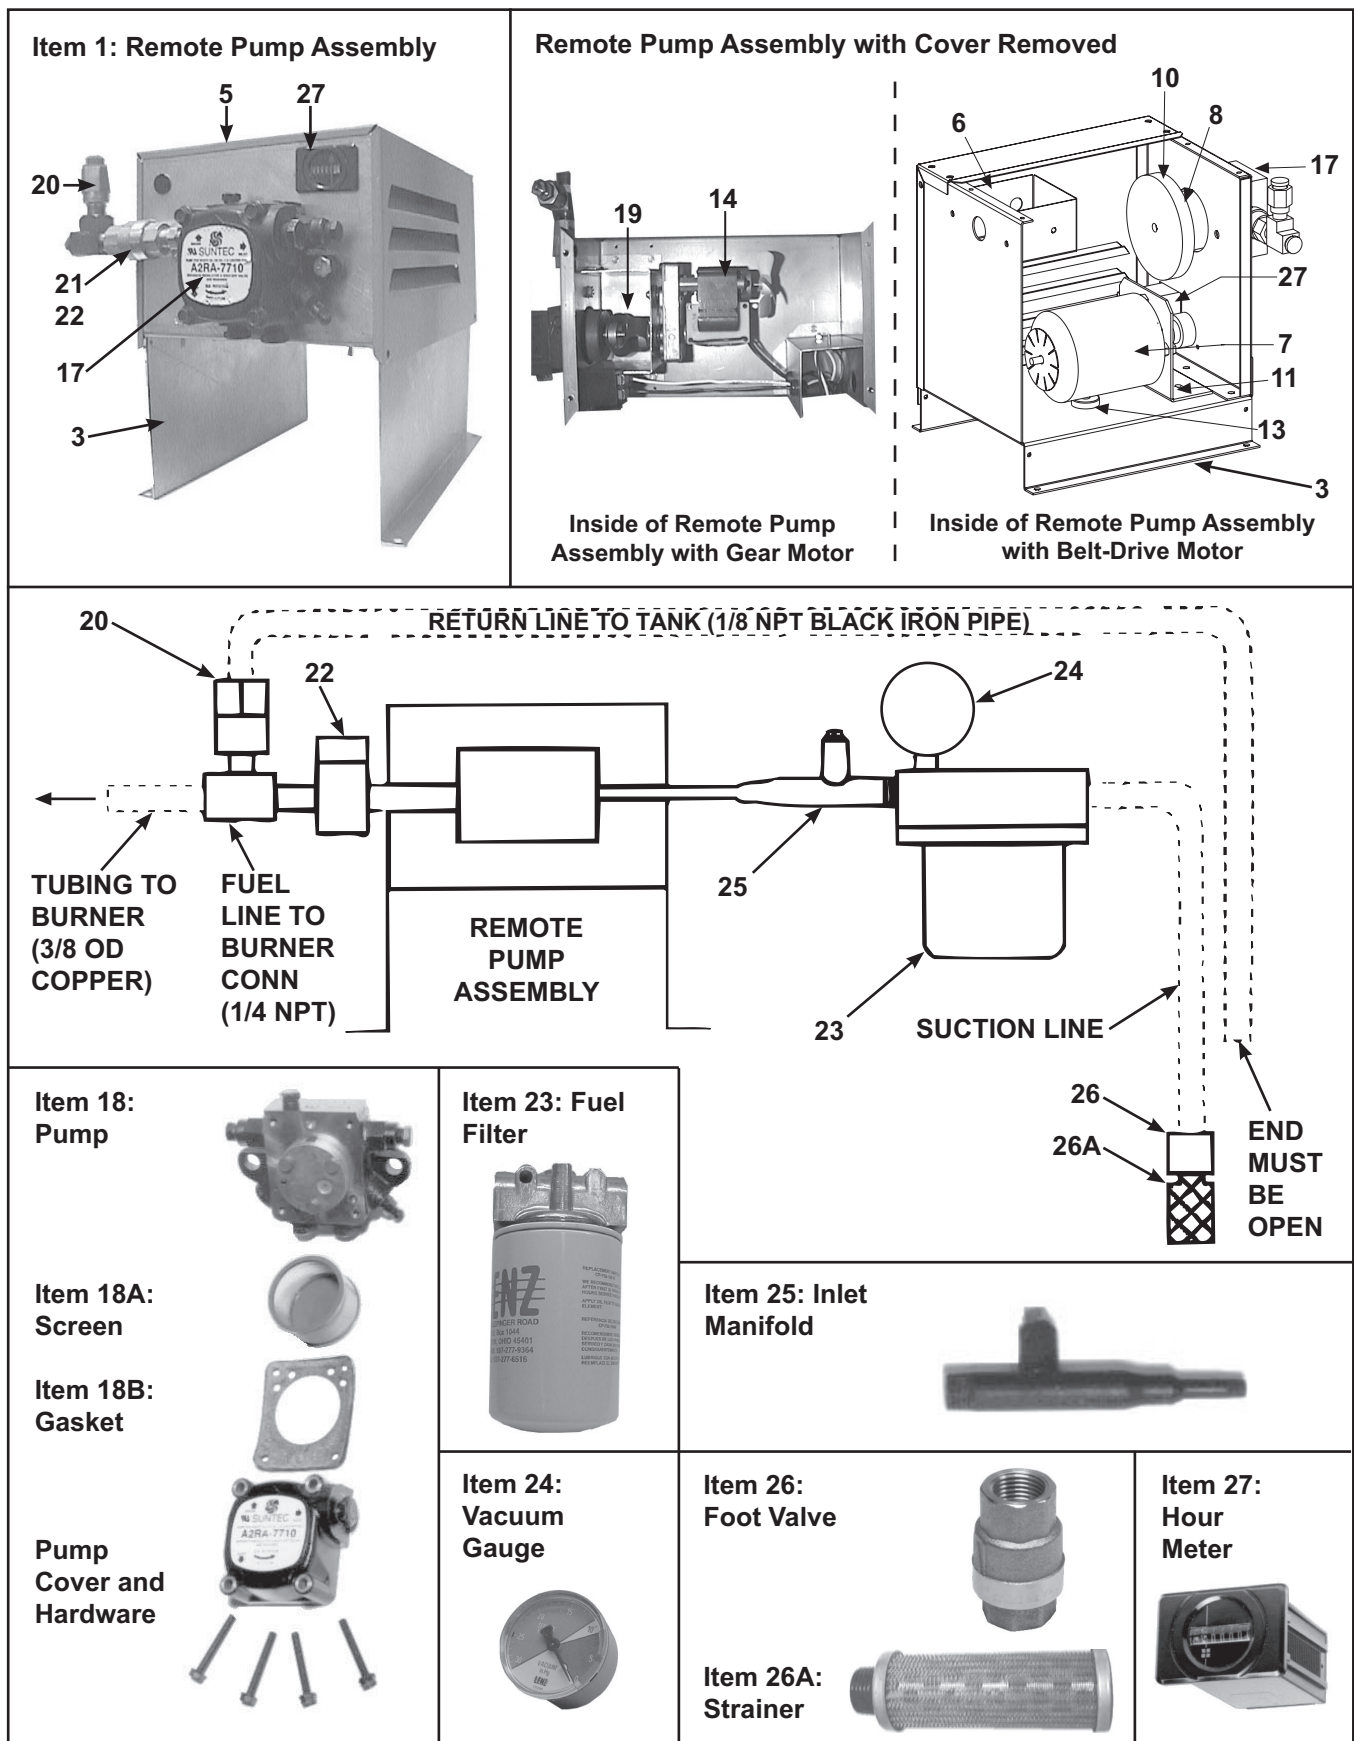

Figure 7. Remote Pump and Suction Line Components (Refer to Table 8)
- Remote pump and suction line components are shown in Figure 7 and listed in Table 8.
- Depending on the unit's date of manufacture, its actual appearance may vary from Figure 7.
- Depending on the unit's date of manufacture, the remote pump is either controlled by a gear motor or by a belt-drive motor. On units manufactured *after* 19 JAN 2005, the gear motor (items 14, 15, and 16) has been replaced by a pulley motor using a replacement kit (item 2).
- The vacuum gauge (item 24) must be installed in an upright position.
- The hour meter (item 27) is located on the main electrical box on units manufactured *before* JAN 1996. On units manufactured *after* DEC 1995, the hour meter is located on the remote pump enclosure.